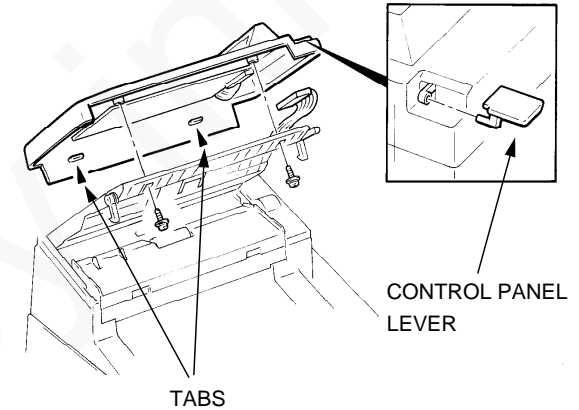

Figure 1. Control panel assembly
5. Open the control panel assembly and remove the two screws retaining the control panel assembly to the upper scanner assembly (figure 1).
6. Slide the control panel lever towards the rear of the machine to remove (figure 1).